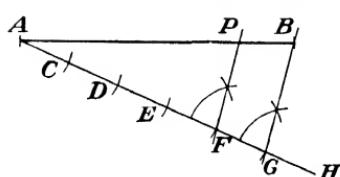

Fig. 134.
- Draw any line, such as AH . See Fig. 134.